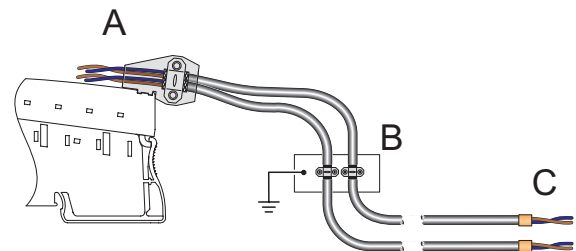

Fig. 5 Connection of two analog sensors with separate cables
Connect the sensors with separate sensor cables to protect them against ground loops as follows (see Fig. 5).
- Install a busbar with a connection to the ground potential in front of the Inline terminal (detail B in Fig. 5).
- Lead the sensor cable into the sensor making sure to **maintain the cable insulation** (detail C in Fig. 5).